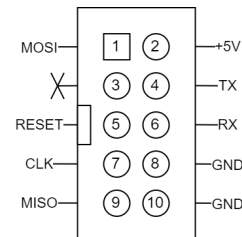
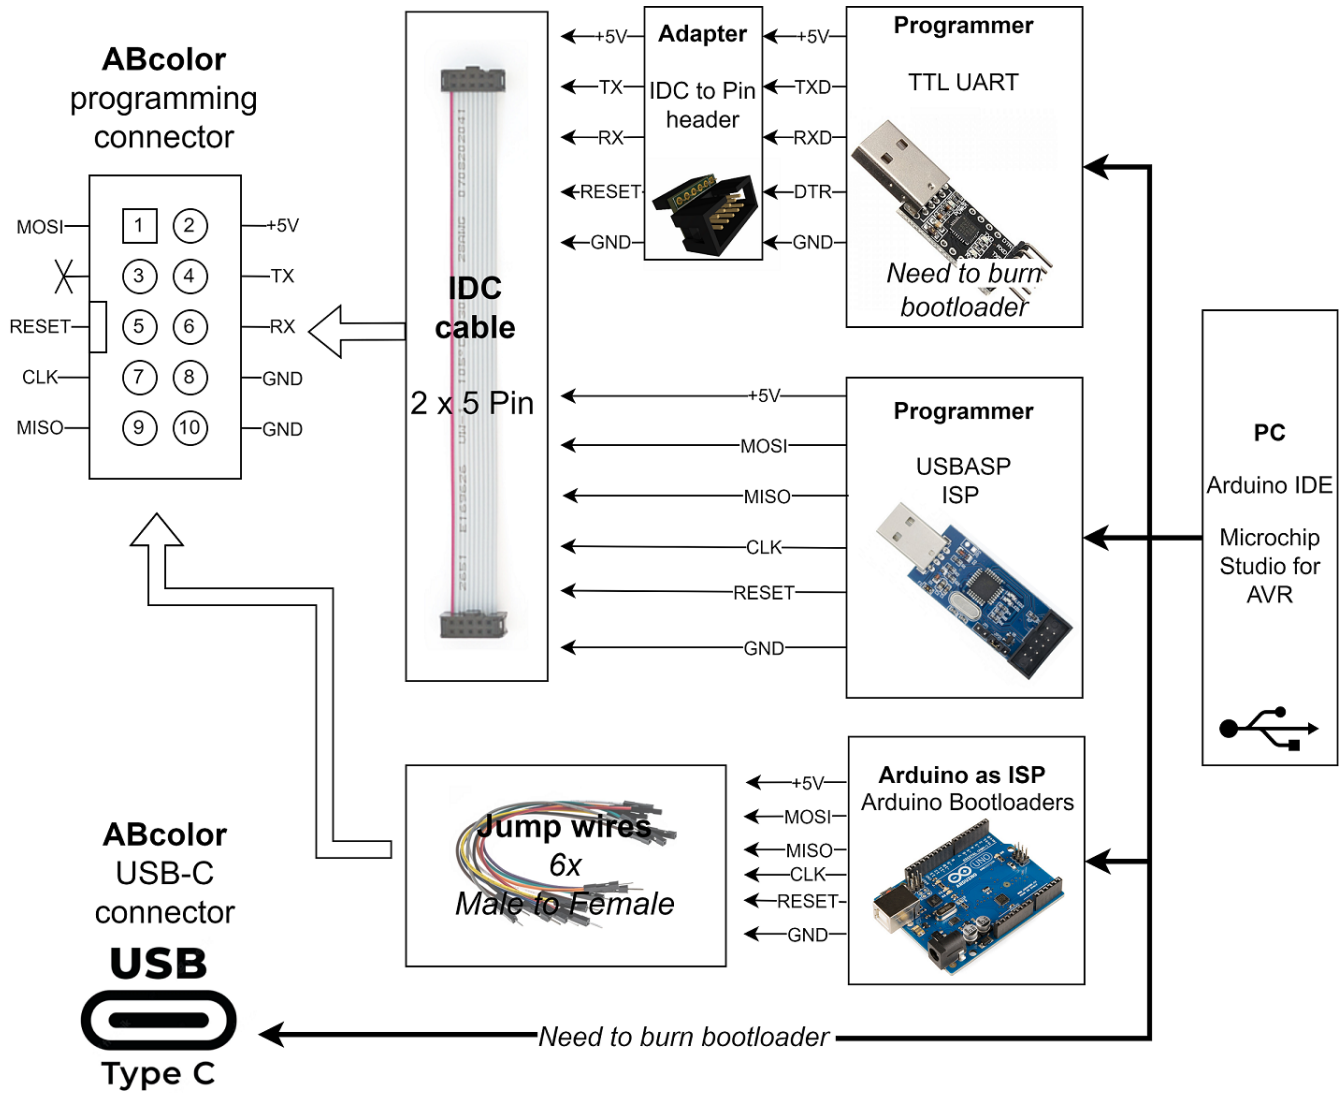

Figure 2: Programming connector - ISP/UART
Figure 13: Example of programming
- **IDC connector** (marked in orange) Pinout in Figure 2.
The ABcolor can be programmed using the USBASP programmer, TTL UART programmer, via USB-C or some other programmer, which using signals contains in the ABcolor programming connector. Figure 2. A simplified and illustrative programming method is shown in Figure 13.